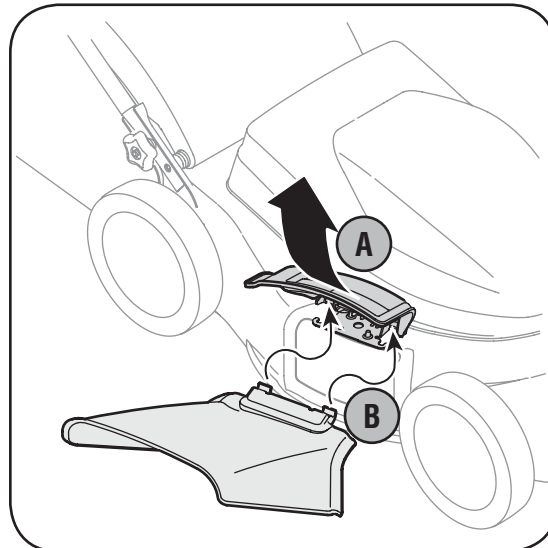

Figure 4-6
- a. On the side of the mower, lift the mulching plug. See Figure 4-6.